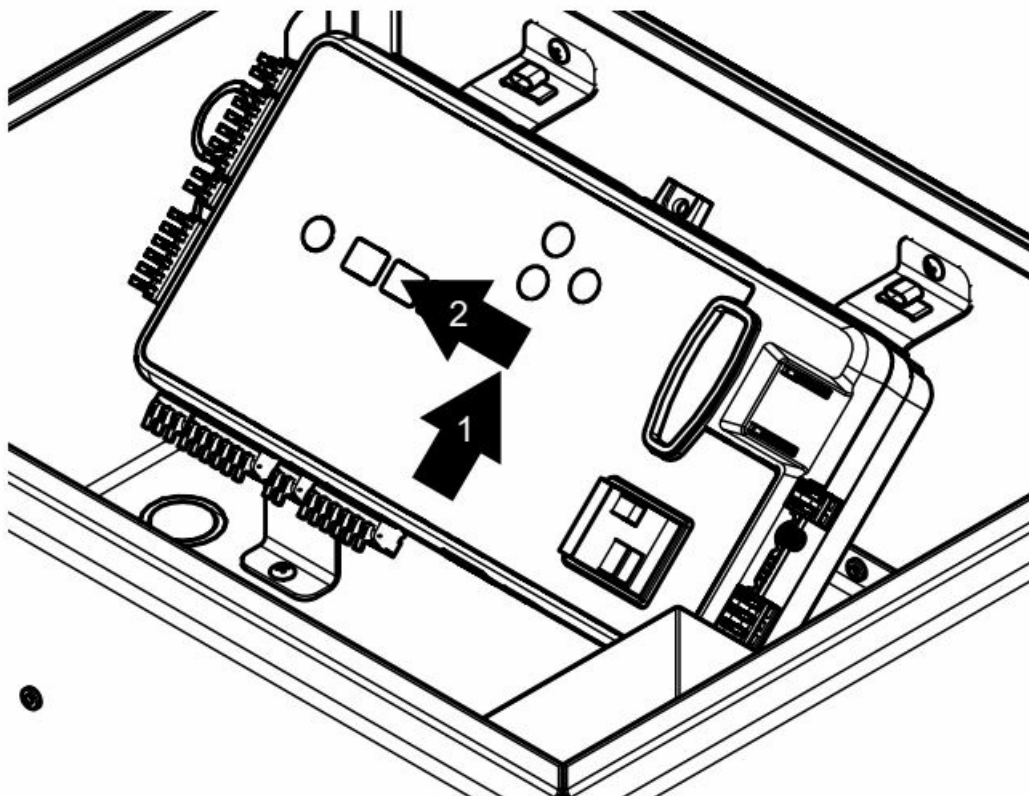

Figure 3. Remove SmartTouch 720/725 Controller
5. Drill a #29 (0.136 in) hole in the back of the electrical enclosure (Figure 3).